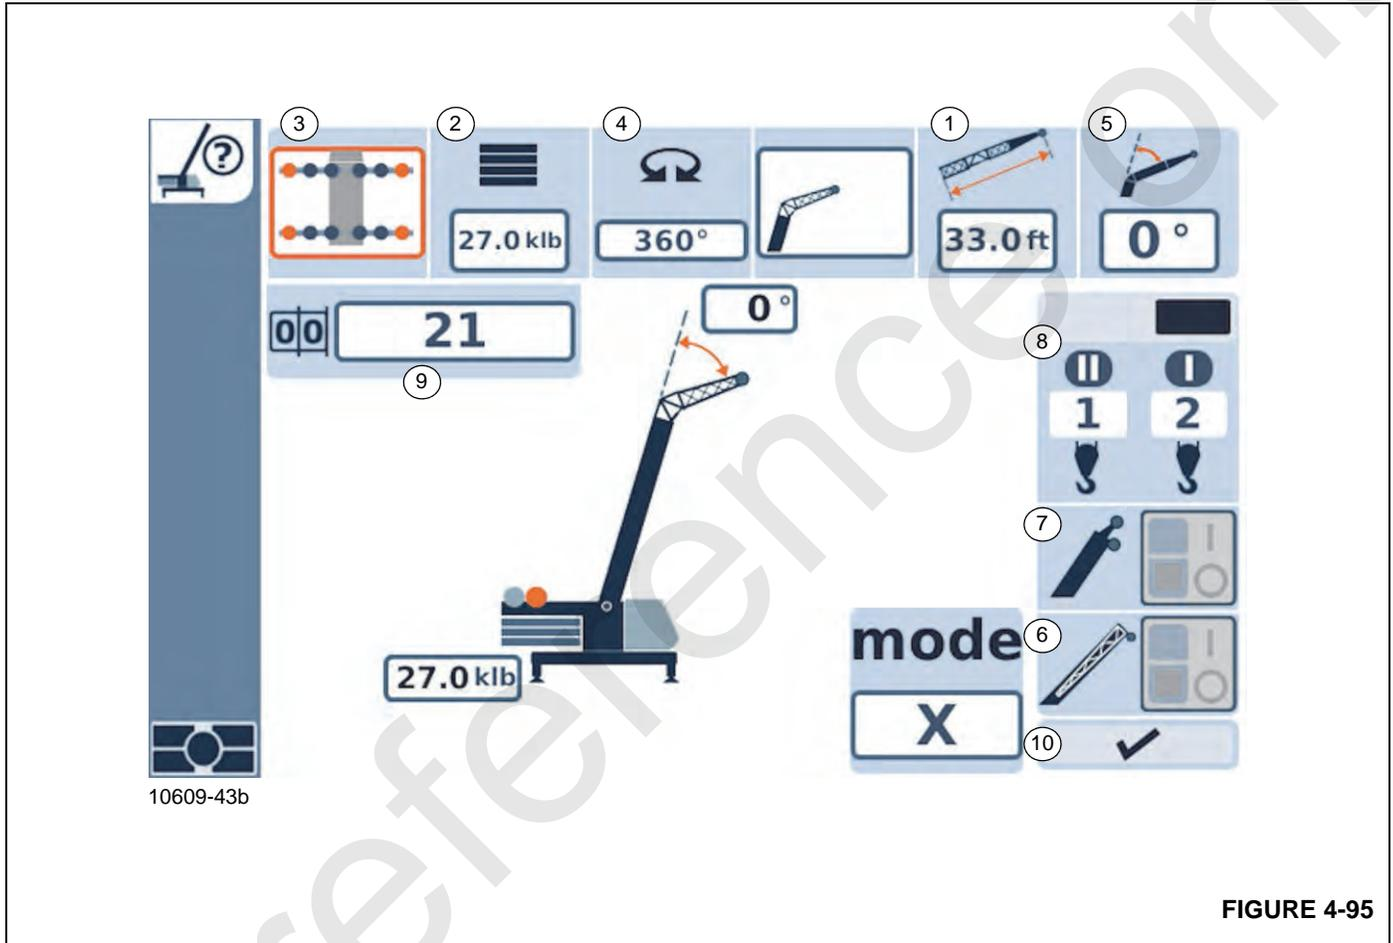

FIGURE 4-95
- Either enter the individual components (1 to 8, Figure 4-95) one after the other.
- Or enter the rigging code (9) and the reeving (8).